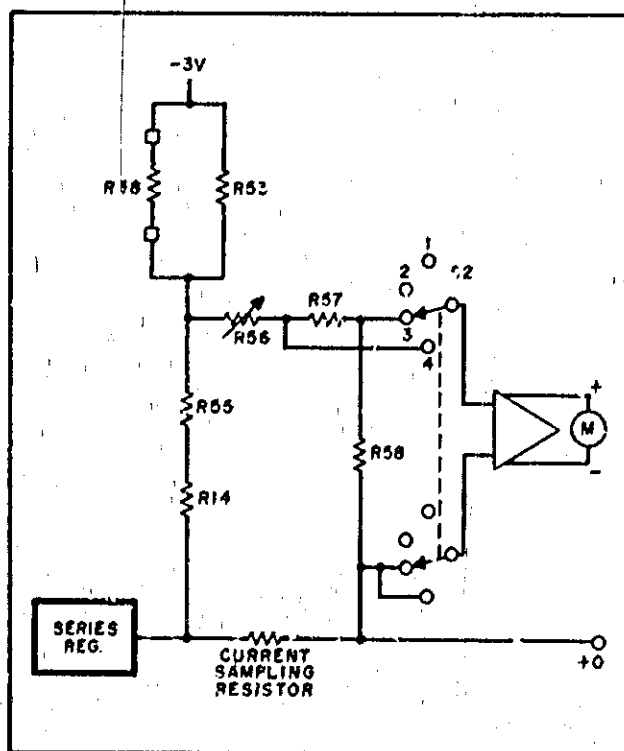

Figure 4-6. Ammeter Connections, Simplified Schematic
4-51 With S2 in the higher current range position (Figure 4-6) the voltage drop across R58 is applied to the meter amplifier and the meter indicates the output current which flows through R54. For low values of output current, S2 can be switched to position (A) and the voltage drop across R57 and R58 is applied to the meter amplifier.